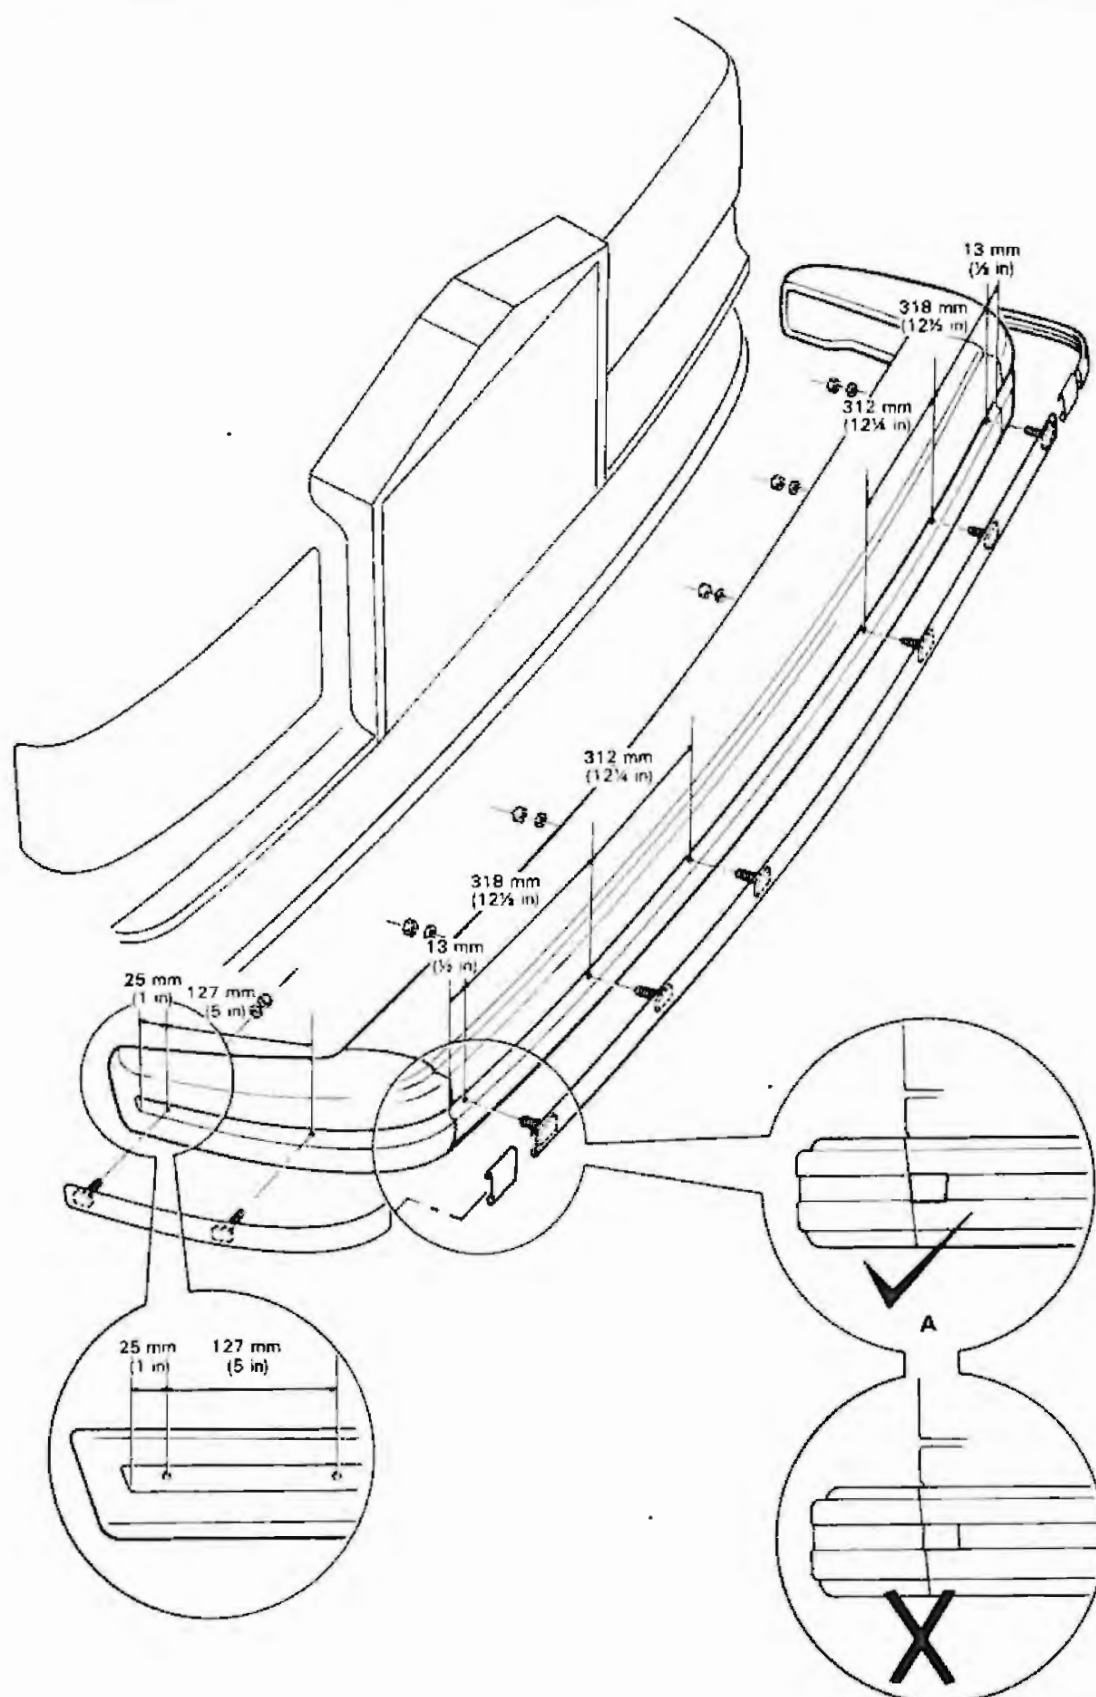
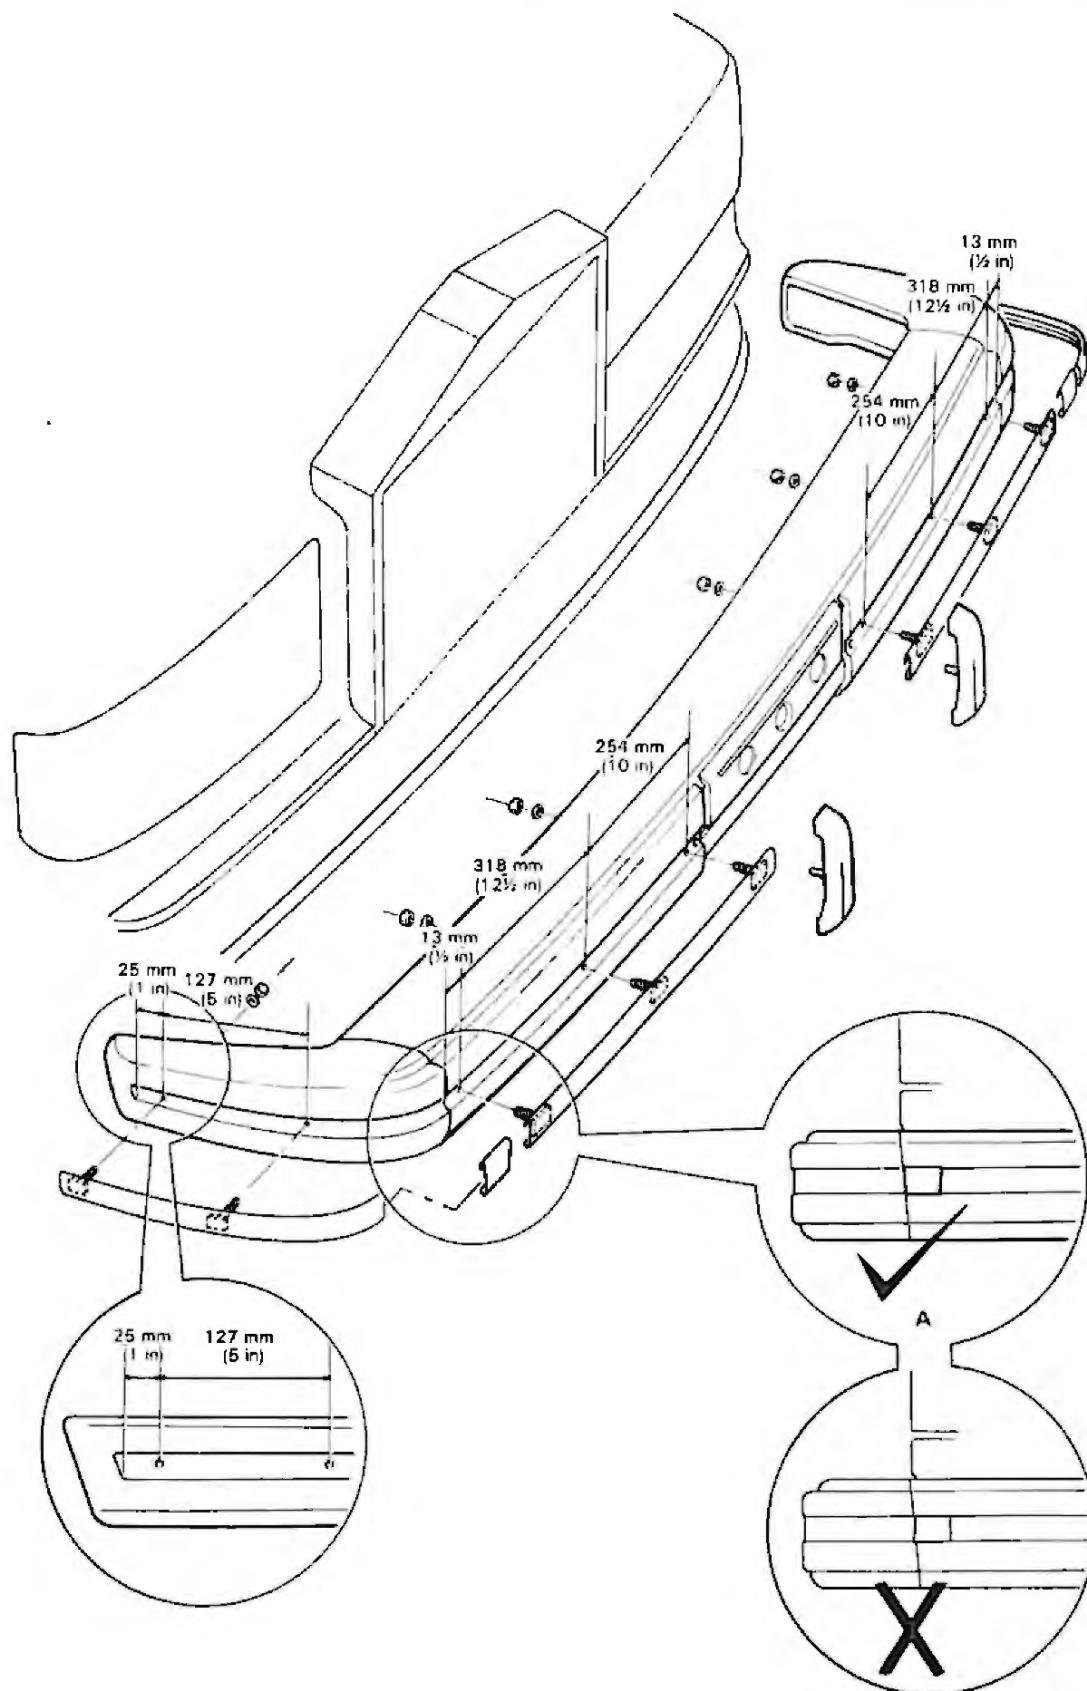

Fig. 1
Fig. 2
- d Mark off the positions for the holes to be drilled in the centre of the recess, in the front and side mouldings (see fig. 1 - UK and European specification motor cars) (see fig. 2 - N. American and Japanese specification cars).
The measurements for the centre section of the bumper are taken from the corner-to-centre section joints, at each end, measuring inwards. On the corner sections, measurements are taken from the bottom of the corner mouldings recess edge, towards the corners (see figs.1 and 2).
- f Fit the finisher strip trims half-way onto the end of the front finisher strip, with the taper pointing downwards (see figs. 1 and 2 Inset A).
- i Position the finisher strip trims in line with the front to corner moulding joint seams (see figs. 1 and 2 Inset A).